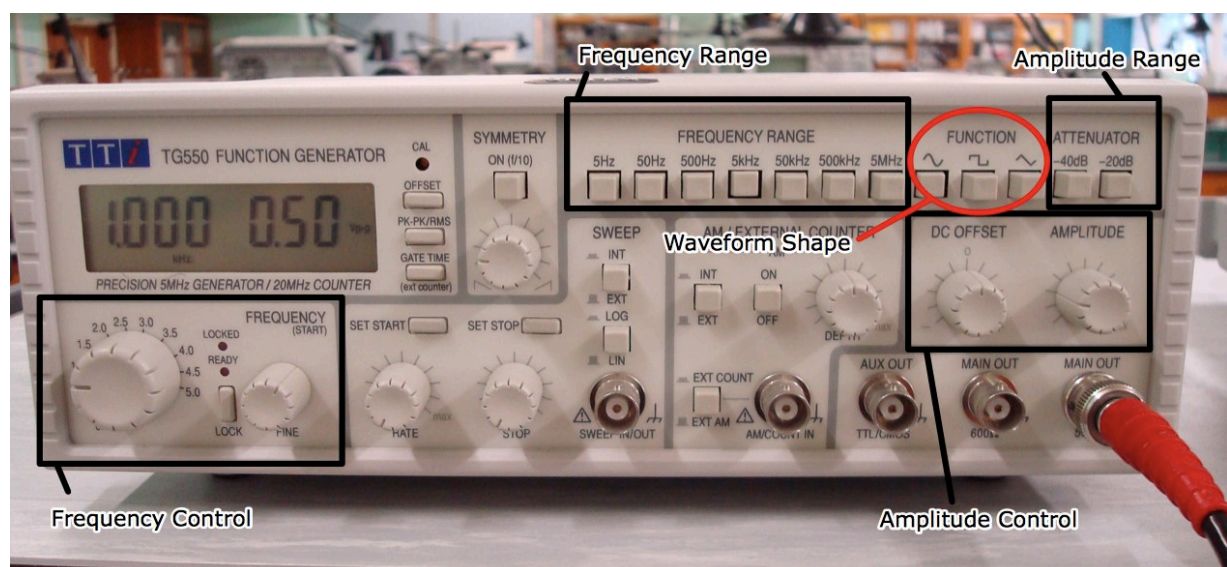

Figure 4: The TTI TG550 function generator.
6. The Function Generator (FG) (See Figure 4)
Next, select a sinusoidal waveform on the function generator and adjust the frequency control (see Figure 4) to 1200 Hz and the amplitude control to 2.5 V_{p-p}. Note that you will need to adjust the **DC OFFSET** control to obtain an offset of +1.25 V, so that the waveform should vary over the range 0 to 2.5 V.